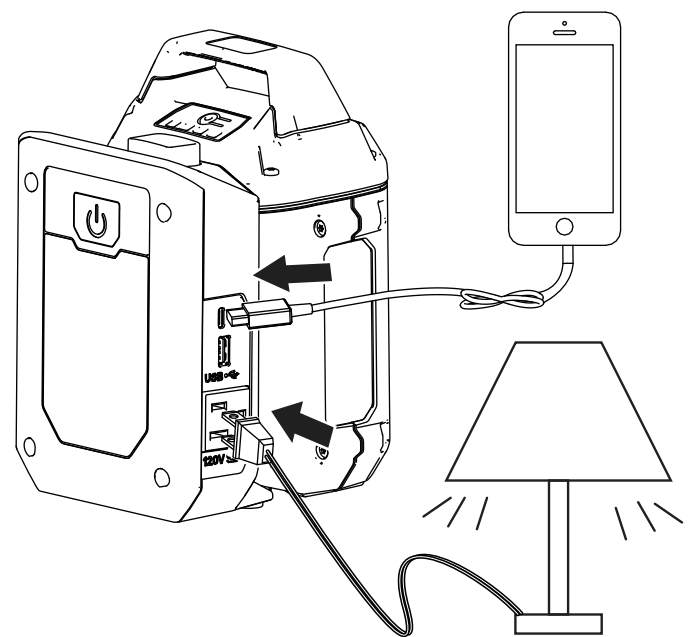

Figure 5
- 3. Connect your device to a USB port or the AC receptacle (Figure 5).